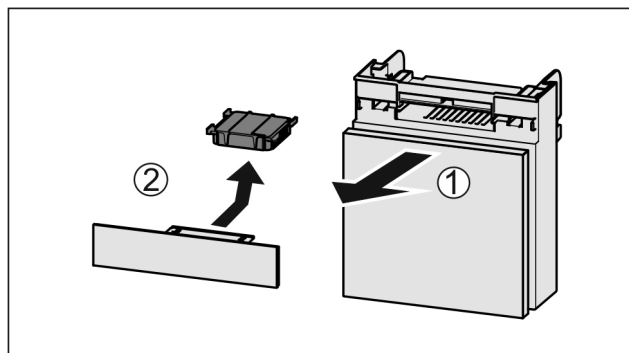

Fig. 69
- Pull out the compartment Fig. 69 (1).
- Remove the carbon filter Fig. 69 (2).